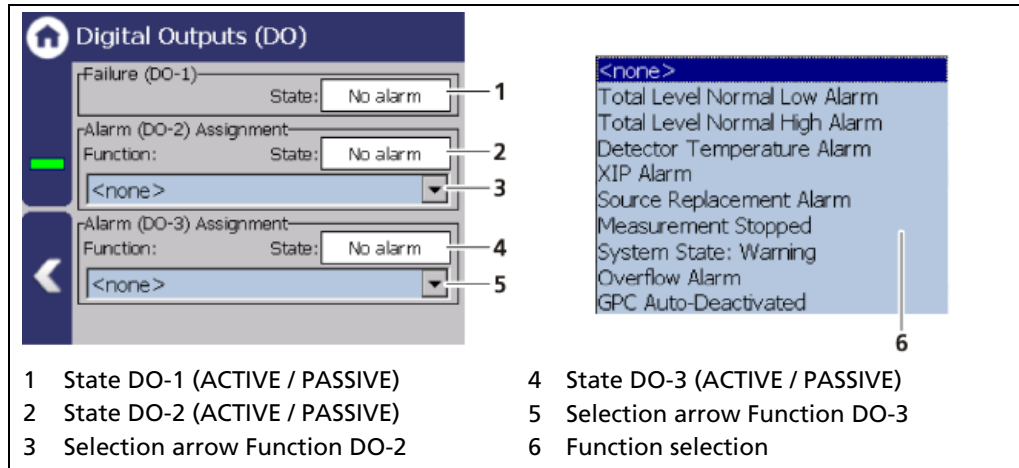

Fig. 104 Digital Outputs
When exceeding or falling below the switching point, an event message appears in the status display. If a digital output "min. level Alarm" or "max. Level Alarm" is assigned under the function (Fig. 104, item 6), the relay alarms.
When the count rate at the GPC detector falls below the switching point, an event message appears in the status display. If a digital output "Overflow Alarm" is assigned under the function (Fig. 104, item 6), the relay alarms. Hysteresis is defined as the tolerance range of the alarm trigger which occurs at a predefined threshold of the process range.